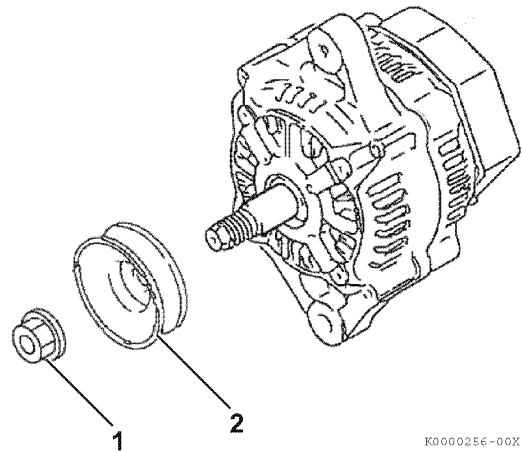

Figure 11-5
1. Remove the nut (Figure 11-5, (1)) from the shaft of the rotor assembly. Remove the pulley (Figure 11-5, (2)).